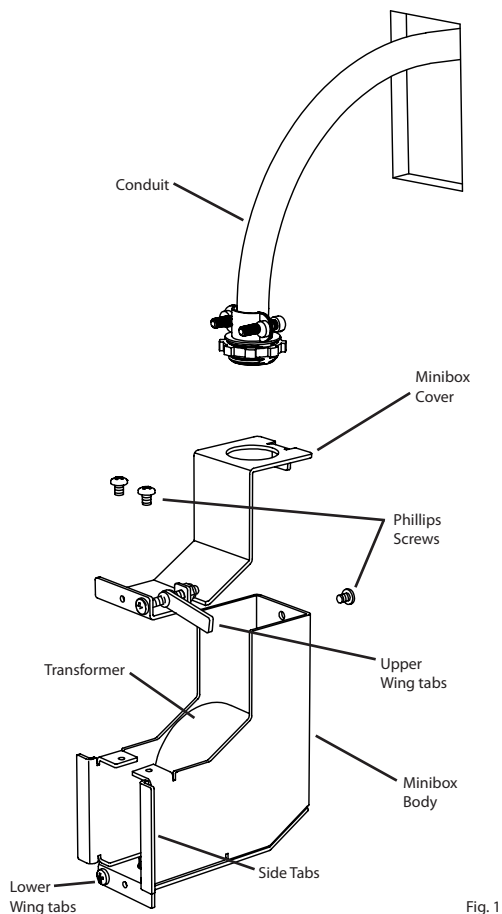

Fig. 1
1. Align **Trim Subassembly** with **Light Engine**. **Note:** **Beam Angle Mark** is visible on the **Trim Subassembly** (Fig. 1).
3. Cut an opening in the mounting surface (minimum 3/8" thick) that measures 1.5" wide by 2.75" high (Fig. 1).
4. Pull 1/2 trade size **flexible metal conduit or building cable** through the opening (Fig. 1).
5. Remove the three **Phillips screws** and separate the Minibox into **upper and lower halves** (Fig. 1).
6. Remove the knockout tab from the **Upper Half** and attach the **Cable/Conduit** to the knockout opening using appropriate connectors (Note: Cable/Conduit and connectors not included) (Fig. 1).
- d. **For 60W and 75W unhooused Transformers only:** Carefully place connections and Transformer in lower half, with the connections in the section near the knockout (Fig. 1).
9. Reattach **Mini Box Cover and Body** by installing the three Phillips screws removed previously (Fig. 1).
10. Loosen the two **Mounting Screws** on the front face of the Minibox until the gap between the wing tabs and the side tabs is greater than the thickness of the mounting surface (Fig. 1).